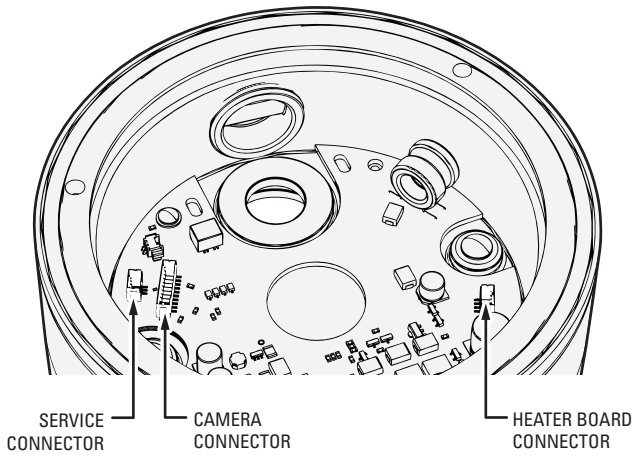

Figure 7. Back Box Connectors
2. Unplug the camera (10-pin), service (3-pin), and heater board (4-pin) connectors from the back box (refer to Figure 7).
1. Plug the connectors into the back box in the following order (refer to Figure 7 on page 17):